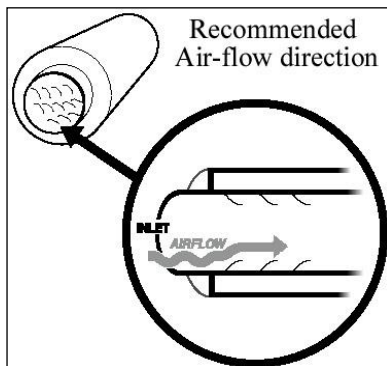

Figure 1
3. Install the **Muffler** over the required pipe securing it with the **Centre Hang Tight™ Hanger** so that the exhaust will flow smoothly over the louvers. **Refer to Figure 1.**